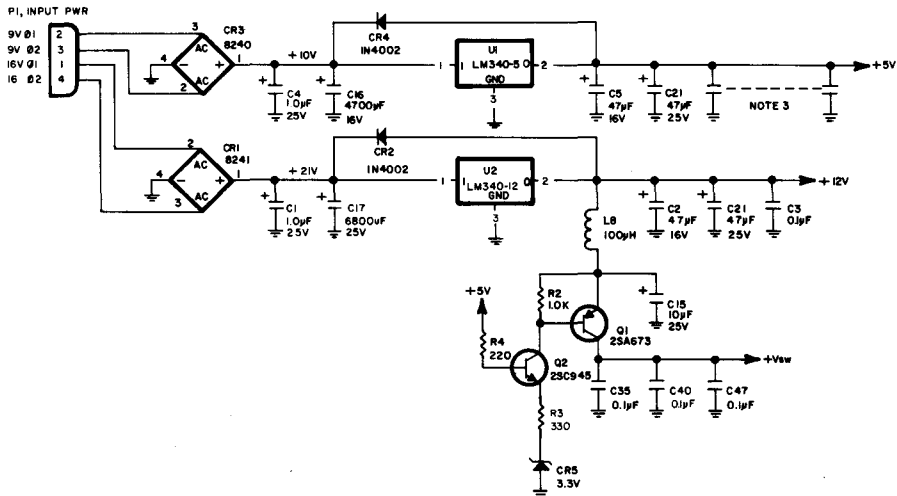

Fig. 7-25. Schematic of power supply, Model 1541.
7.2.2 Power Supply Electrical Theory (Refer to Figs. 7-25 and 7-26)